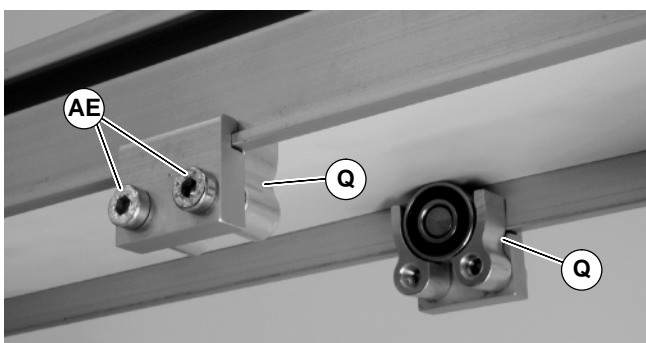

Figure 12
3. Install roller assemblies (Q of Figure 12) as shown. Tighten screws (AE) to 7 Nm.